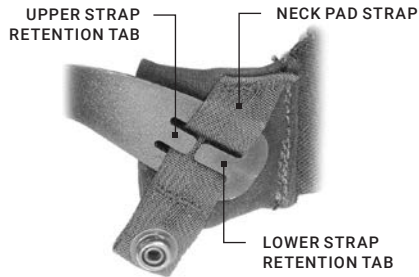

FIGURE 3-1. RE-INSTALLING THE NECK PAD
1. Lift the upper headband strap retention tab (see Figure 3-1). This will allow you to insert the neck pad strap underneath.